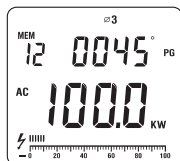

Figure 13
- After sum up the current power measurement value of the second phase, then press **SELECT** again to choose the third phase $\varnothing 3$, as figure 13.